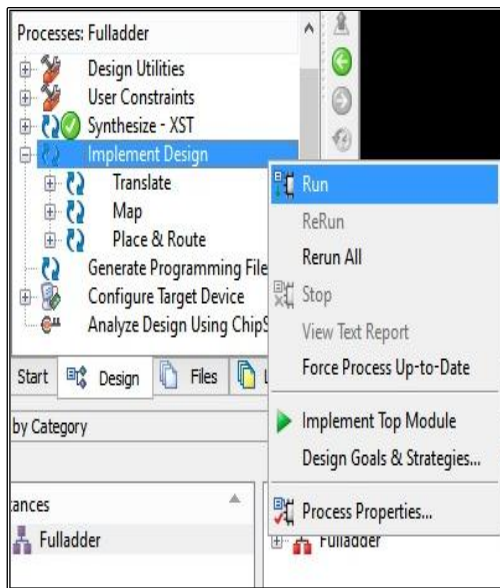
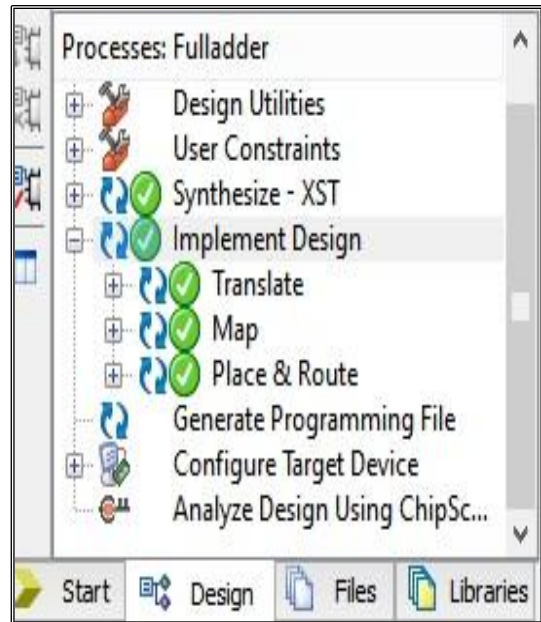

Fig 3.21: Design Implementation
Fig 3.22: Successful implementation
19. A blank window will appear in a new tab having the design’s name as “FA.ucf” . Add the constraints for each input port and output port (Fig 3.22).
22. Next step is the implementation of the design. Right click **Implement Design** and click **Run** (Fig 3.21). After successful implementation a green check will appear on all the three steps i.e. translate, map and place & route (Fig 3.22).